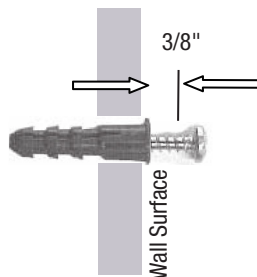

Figure 3
*NOTE:* If the screws are being driven into drywall and not into a stud, pre-drill the screw holes using a 3/16" drill bit. Insert the anchors into the holes and drive the screws, leaving 3/8" of each screw protruding from the surface of the wall as shown in **Figure 3**.